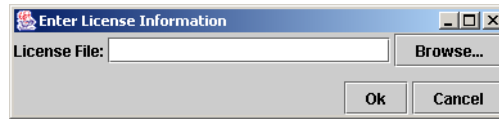

Figure 5. License File window
2. The first time the ForeSight application runs, it will ask the user to specify the location of the registration file (see figure 5). Click the **Browse** button to find the registration file obtained from Patton Sales.